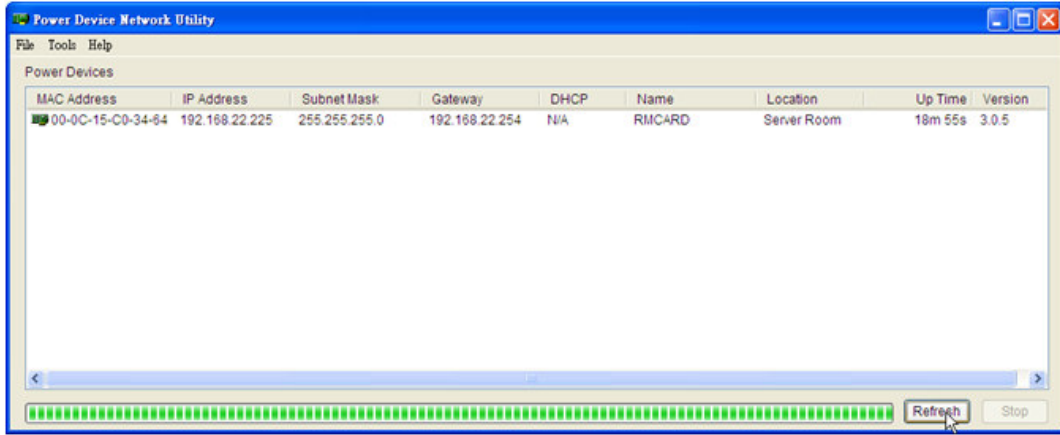

Figure 1. The main window of the “Power Device Network Utility” program.
3. The main dialog of the "Power Device Network Utility Tool" program is shown in Figure. 1. The configuration tool will display all Remote Management Cards of present on the same network. The "Refresh" button is used to search the entire local network for Remote Management Card.